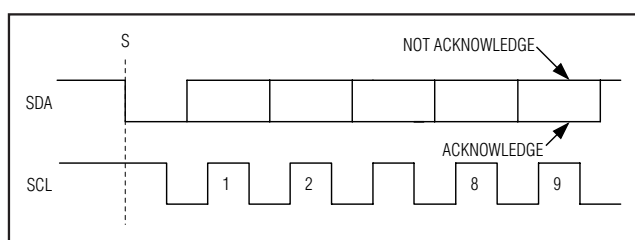

Figure 6. Acknowledge Bits
Successful data transfers are acknowledged with an acknowledge bit (A) or a not-acknowledge bit ($\bar{A}$). Both the master and the MAX1036–MAX1039 (slave) generate acknowledge bits. To generate an “acknowledge,” the receiving device must pull SDA low before the rising edge of the acknowledge related clock pulse (ninth pulse) and keep it low during the high period of the clock pulse (Figure 6). To generate a “not acknowledge,” the receiver allows SDA to be pulled high before the rising edge of the acknowledge related clock pulse and leaves it high during the high period of the clock pulse.